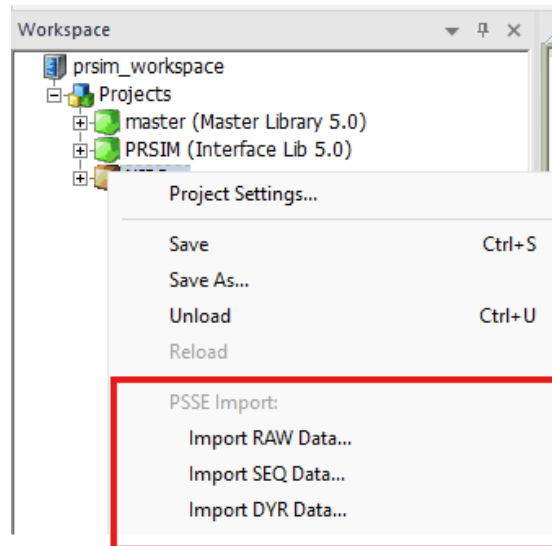

Figure 7: Importing RAW, SEQ and Dyr
3. Right-click on **NIPS.pfcx** and use the **Import RAW Data** option to import the **.raw** file exported from PowerFactory above – see Figure 7 below.